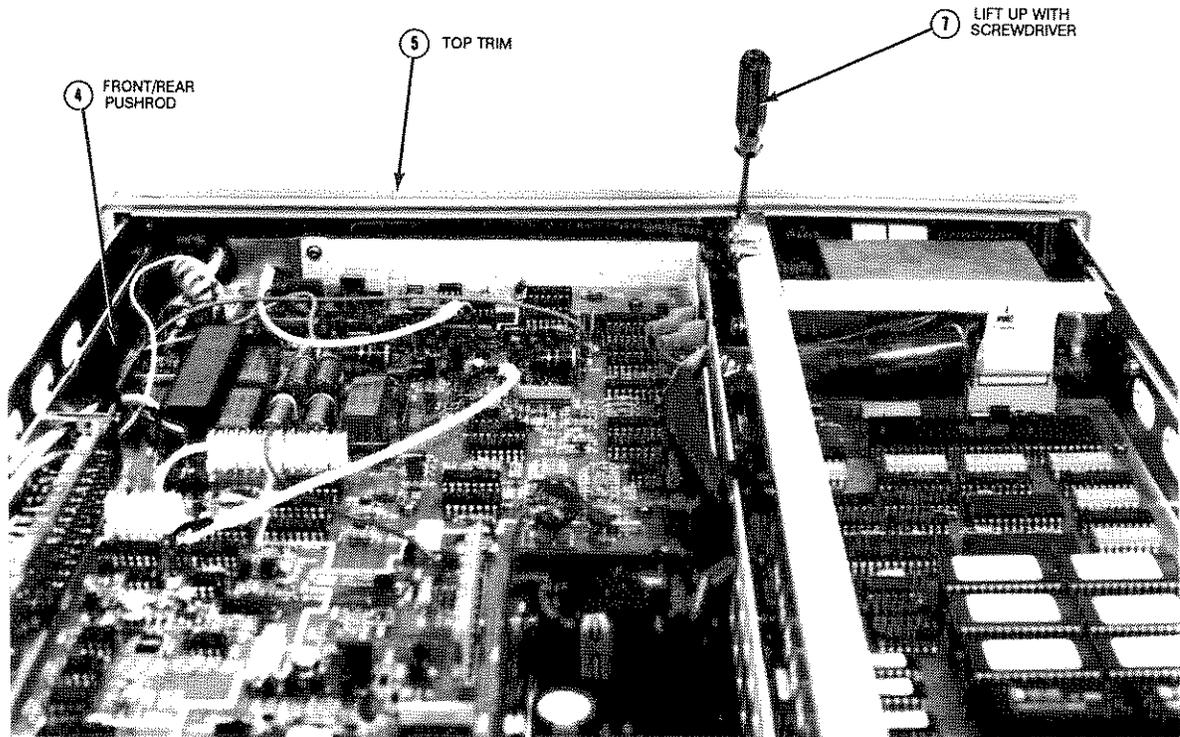

Figure 3-17. Top Trim and Front/rear Pushrod Locations, and Unlock Panel
5. Refer to Figure 3-17. Do the following:
8. Refer to Figure 3-17. With a small flat bladed screwdriver, lift up the Front Panel assembly and unlock it from the chassis. Carefully move some more of the Front Panel assembly's left side (as seen from the front of the instrument) until free from the chassis. Then move the rest of the Front Panel assembly out and away from the instrument as far as it can go. Note that the assembly can only be moved a short distance, since the front terminals are still internally connected to the instrument.
11. Install the top trim into the channel on top of the Front Panel assembly. Lock it in place (see Figure 3-17).
13. Refer to Figure 3-17. Guide the Front/Rear Terminals switch pushrod through the rear of the front panel's access hole. Then align the pushrod with the Front/Rear Terminals switch shaft and push it all the way onto the shaft.